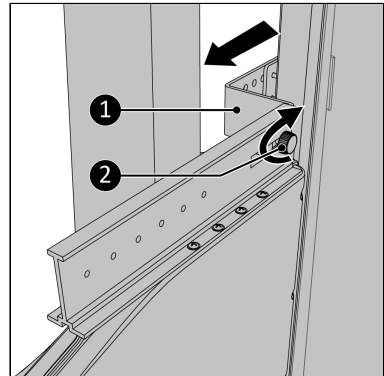

Figure 90.
9. Pull the bracket as far towards you as possible (Figure 90, pos 1) so it clamps properly.
10. Tighten the screw cap (Figure 90, pos. 2).